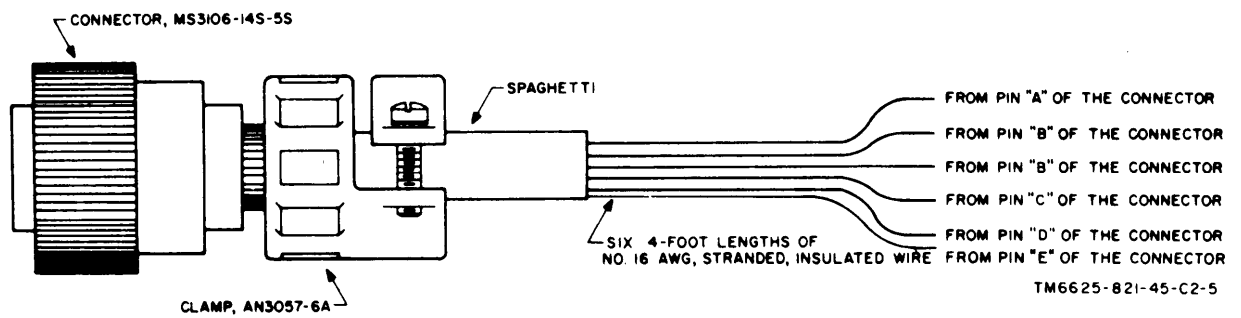

Figure 3-5. Fabricated cable for the BEARING INDICATOR, construction details.
(1) Fabricated cable used to adjust the BEARING INDICATOR (fig. 3-5).
(1) Connect the fabricated cable to the connector at the rear of the BEARING INDICATOR. A detailed drawing of the fabricated cable is shown in figure 3-5.
(2) Connect the wire from pin A of the connector on the fabricated cable to pin M of connector P1 on the test set.
(3) Connect one of the wires from pin B of the connector on the fabricated cable to pin H of connector P1 on the test set.
(4) Connect the wires from pins C and D of the connector on the fabricated cable to the INPUT of the voltmeter.
(5) Connect wire from pin E of the connector of the fabricated cable to the test set connector pin Pi-E.